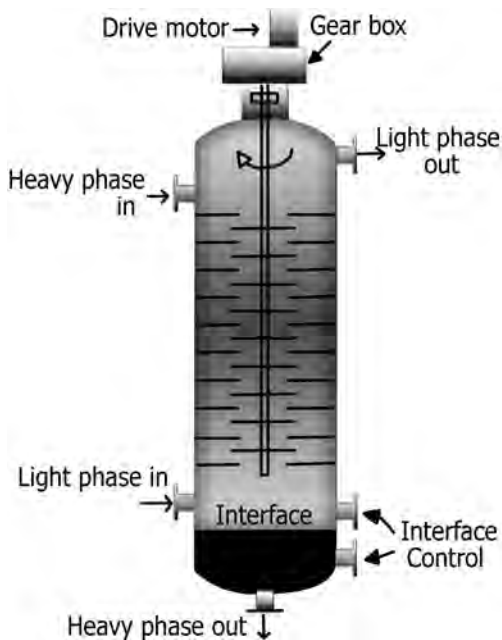

FIGURE 17.58 Rotating disk column.
- RDCs (Figure 17.58) are in effect mixer-settler units arranged in a single vertical shell.